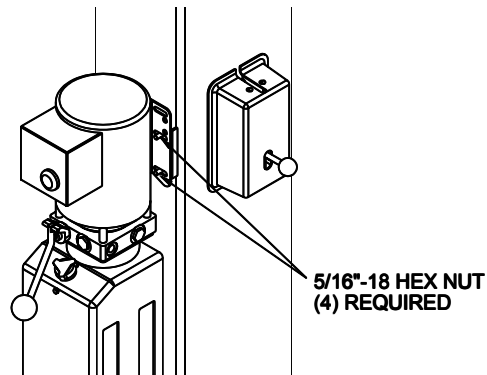

Fig 8 – Power Unit Mounting
- 21) Mount Power Unit to power column as shown in **Fig 8**. The mounting hardware, (4) 5/16"-18 hex nuts, are pre-installed on power unit mounting bracket.